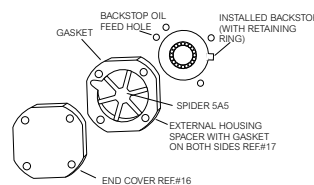

Figure 3A
4. **FINAL ASSEMBLY — EXTERNAL PARTS:** On drive sizes 5107J and 5115J, refer to figures 3A and 3B. Oil feed slots in gaskets and cover spacer must be aligned with the housing backstop oil feed hole to provide proper lubrication for the backstop. Install fasteners with lock washers and cross tighten to 3.5 lb-ft (4,7 Nm) torque.